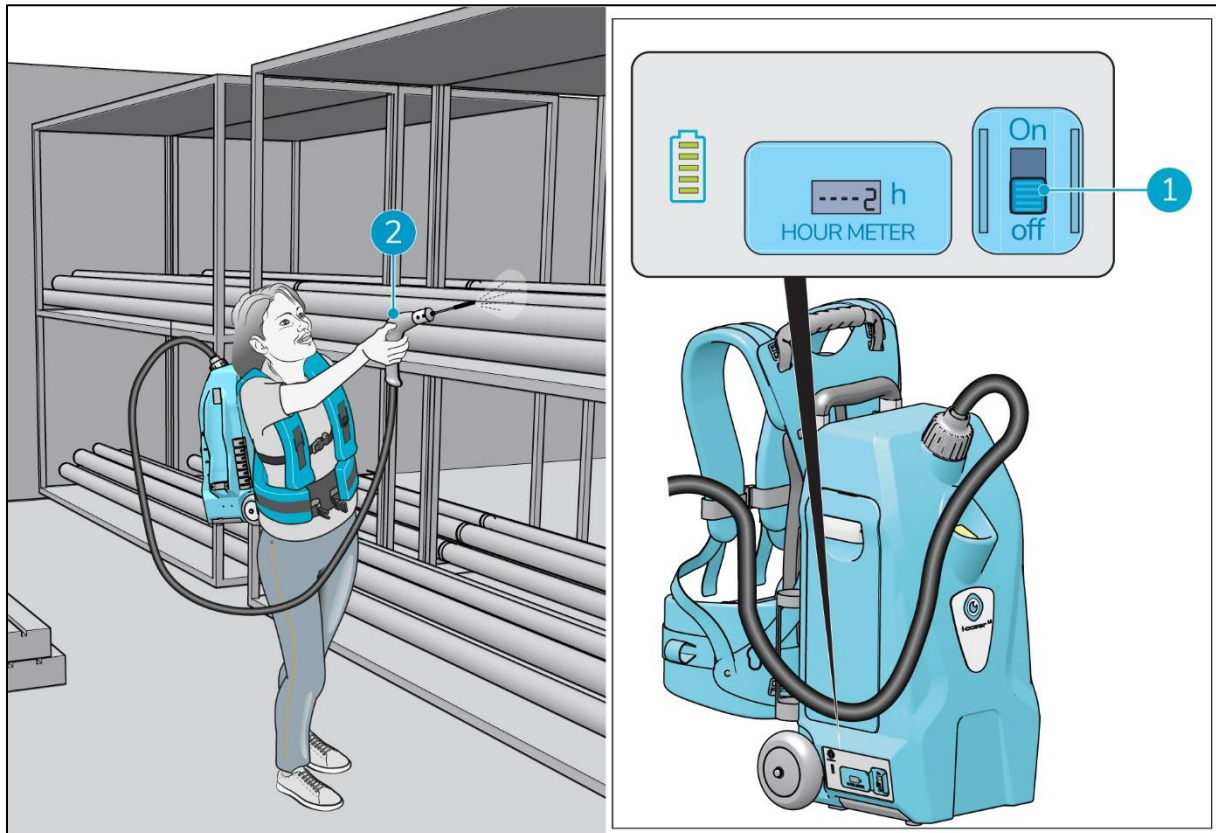

Figure 14
2. Press the ON/OFF switch (Figure 14, pos 1) to turn on the i-cover® 2.5. The hour meter and the battery power status display light up. See also section 2.1.
3. Press the ON/OFF switch on the spray gun (Figure 14, pos 2).